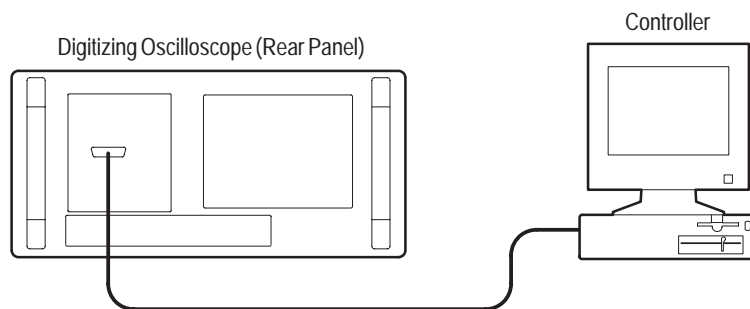

Figure 3-51: Connecting the Digitizing Oscilloscope to a Controller
**Connect the Oscilloscope to the GPIB.** To connect the oscilloscope, plug an IEEE Std 488.2-1987 GPIB cable (available from Tektronix, part number 012-0991-00) into the GPIB connector on the oscilloscope rear panel and into the GPIB port on your controller or hardcopy device (see Figure 3-51).